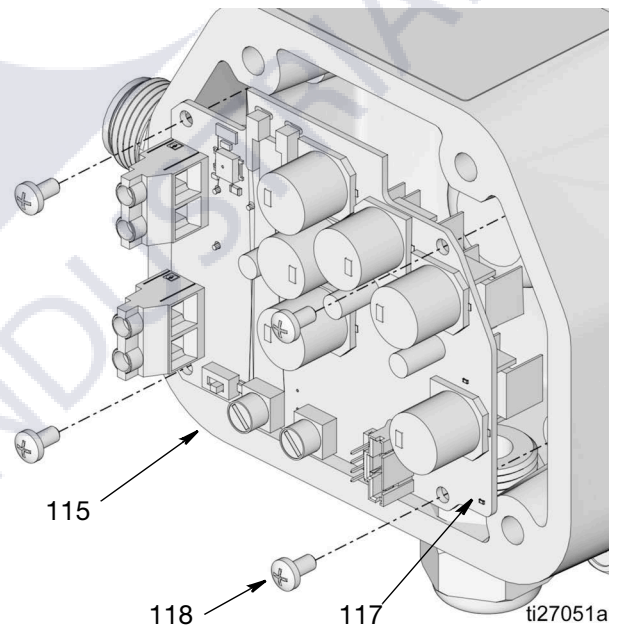

FIG. 68
9. Remove screws (118) securing motor control board (117) to housing (115) (FIG. 68).